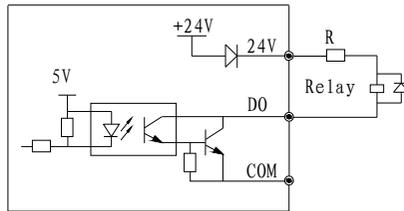

Fig. 2-12 On-off output connection mode 1 of multi-function output terminals
1) Multi-function output terminals DO as discrete output can use the internal 24V power supply of inverter and the wiring method is shown in Figure 2-12.